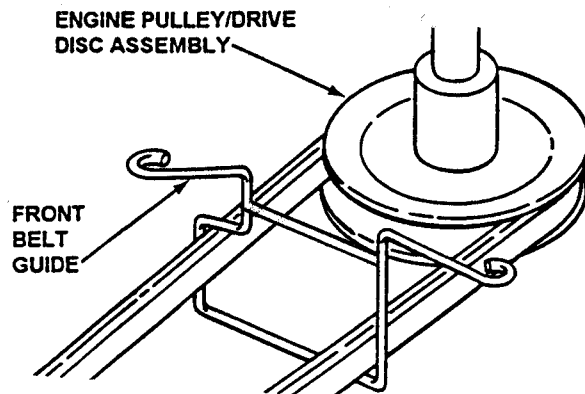

FIGURE 4.23
6. Move transmission shift lever to the #5 position and place belt over drive disc and into drive pulley belt groove. See Figure 4.23.
7. Route belt onto spindle pulley. Make sure belt is inside the spindle belt guide and inside the idler belt guide. See Figure 4.23.